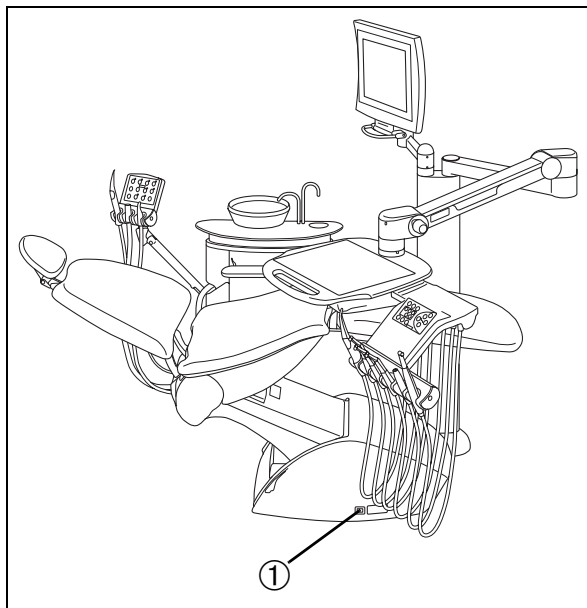

Fig. 89
The main switch (for air, water and electricity) ① (Fig. 89) for the unit is located on the supply unit. See the “Startup and operation” chapter of these instructions for use for further details.